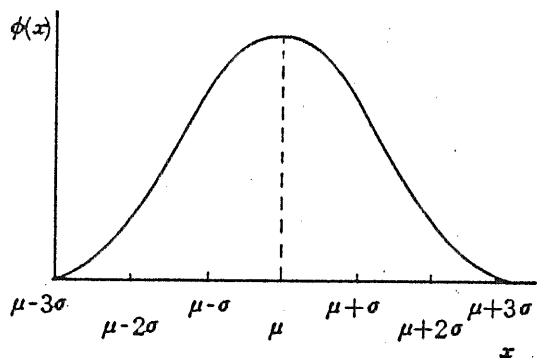
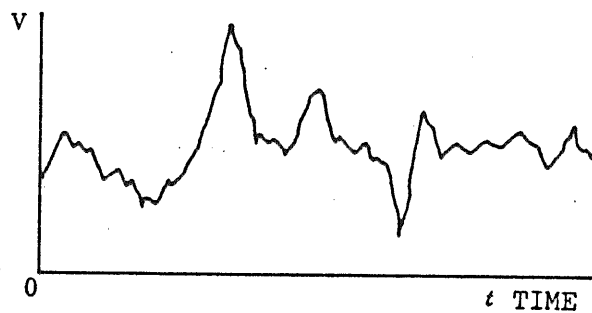

Figure 5-1
Figure 5-2 Wow flutter signal waveform (typical)
This equation represents a "Gaussian error curve Figure 5-1" derived theoretically basing on the law of errors. The variation factors of the wow and flutter signal voltage (V) also is of a nature of probability and its waveform is complicated as a typical example is shown in Figure 5-2. Yet, this complicated waveform is a combination of a number of sinusoidal wave components which have respective periods and peak values. Taking the peak voltage (V_{WF}) as a probability variable, its probability density function $\phi(V_{WF})$ can be expressed by equation (5-2).